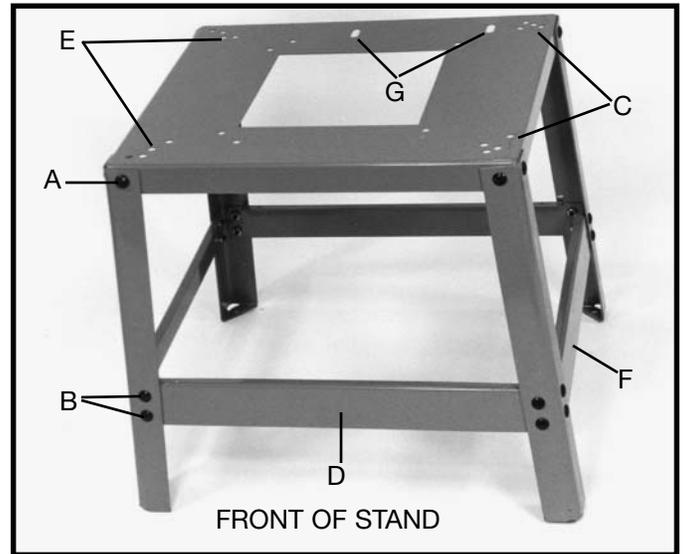

Fig. 11
1. Assemble the stand, as shown in Fig. 11, using the 24 carriage bolts, 8 flat washers, 8 lockwashers and 24 nuts supplied. **NOTE:** Eight carriage bolts (A), flat washers, lockwashers and nuts are used to mount the legs to the top shelf of the stand and sixteen carriage bolts (B) and nuts are used to mount the front, rear and side tie bars to the legs. The two side tie bars (F), are 20-15/16" long and the front and rear tie bars (D) are 23-7/16" long.
3. The front end of the top shelf is indicated in Fig. 11. Two slots (G), which are supplied on later models of the 50-314 stand, indicate the rear end of the top shelf. Place the machine on the top shelf with the front (infeed) end of the machine toward the side of the top shelf indicated as FRONT in Fig. 11. The four holes in the base of the machine are to be aligned with the four holes indicated on the top shelf as (C) and (E) making sure that the left hand side of the base will be over holes (E) and the right hand side of the base will be over holes (C). The offset between the top shelf of the stand and the base of the planer will be on the left side. Mount the machine to the top shelf using the four 1" long hex head screws, flat washers, lock washers and hex nuts supplied.